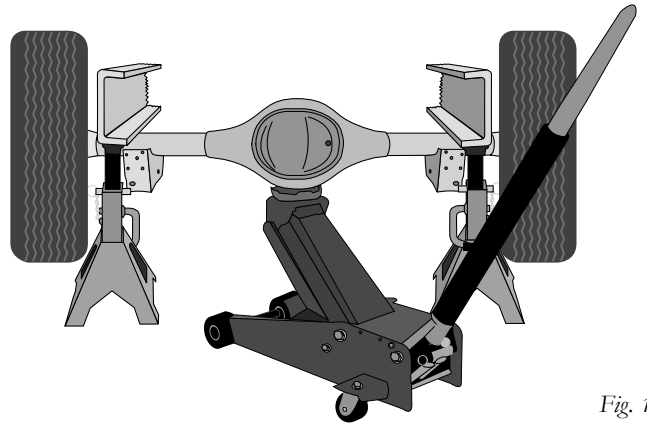

Fig. 1
1. Raise the frame and support the frame with safety stands. Lower the axle as far as it can go (Fig. 1).